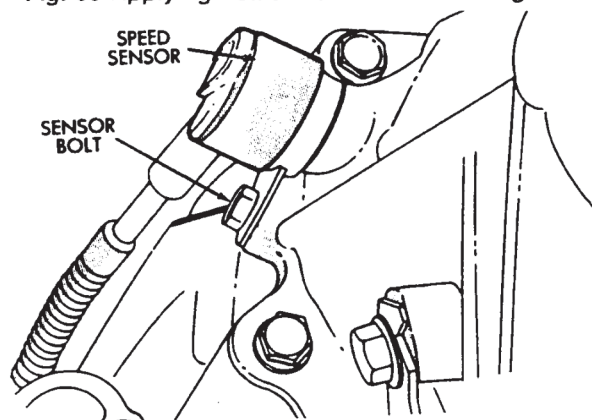

Fig. 66 Installing Speed Sensor
(89) Install extension or adapter housing on transmission. Tighten housing/adapter bolts to 34 N•m (25 ft-lbs) torque.
(90) Install speed sensor (Fig. 66). Tighten sensor bolt to 7.4 N•m (65 in-lbs) torque and connect sensor wire harness connector.